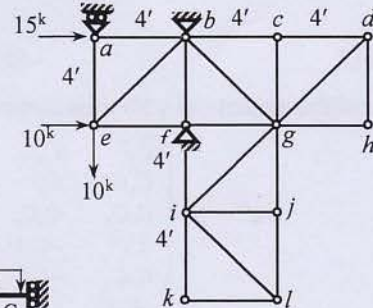

Fig.4
- Identify zero-force members of the truss loaded as shown in Fig.4. Determine the displacements of joint a and e . Also calculate member forces [Given: $EA/L = 1000 \text{ k/ft}$].